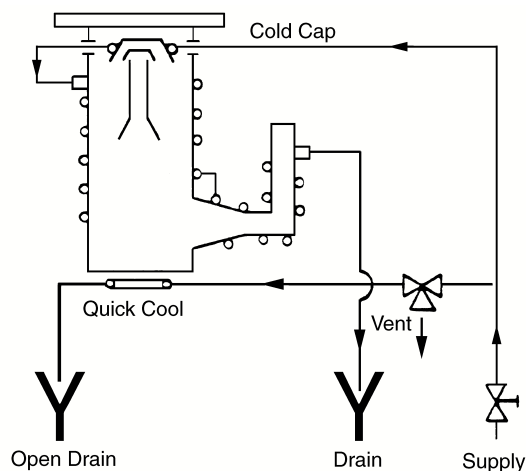

Figure 10 Cooling Water Connections
1. Connect the cold cap cooling coil and all body and foreline cooling in series *except the Quick Cool coil (see the following paragraph)* as shown in Figure 10. Refer to Table 4 on page 6 for the cooling water flowrate for your pump type. Higher flows will not harm the pump.